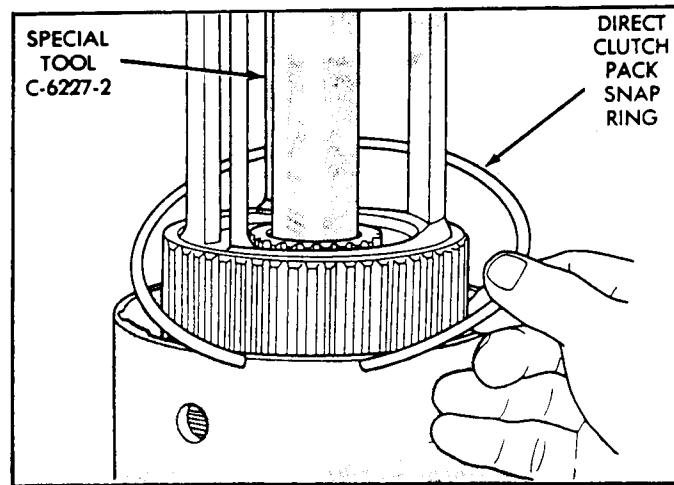

Figure 20
30. Install the direct clutchesnap ring, as shown in Figure 20, and "**Ensure**" that snap ring is fully seated in snap ring groove.